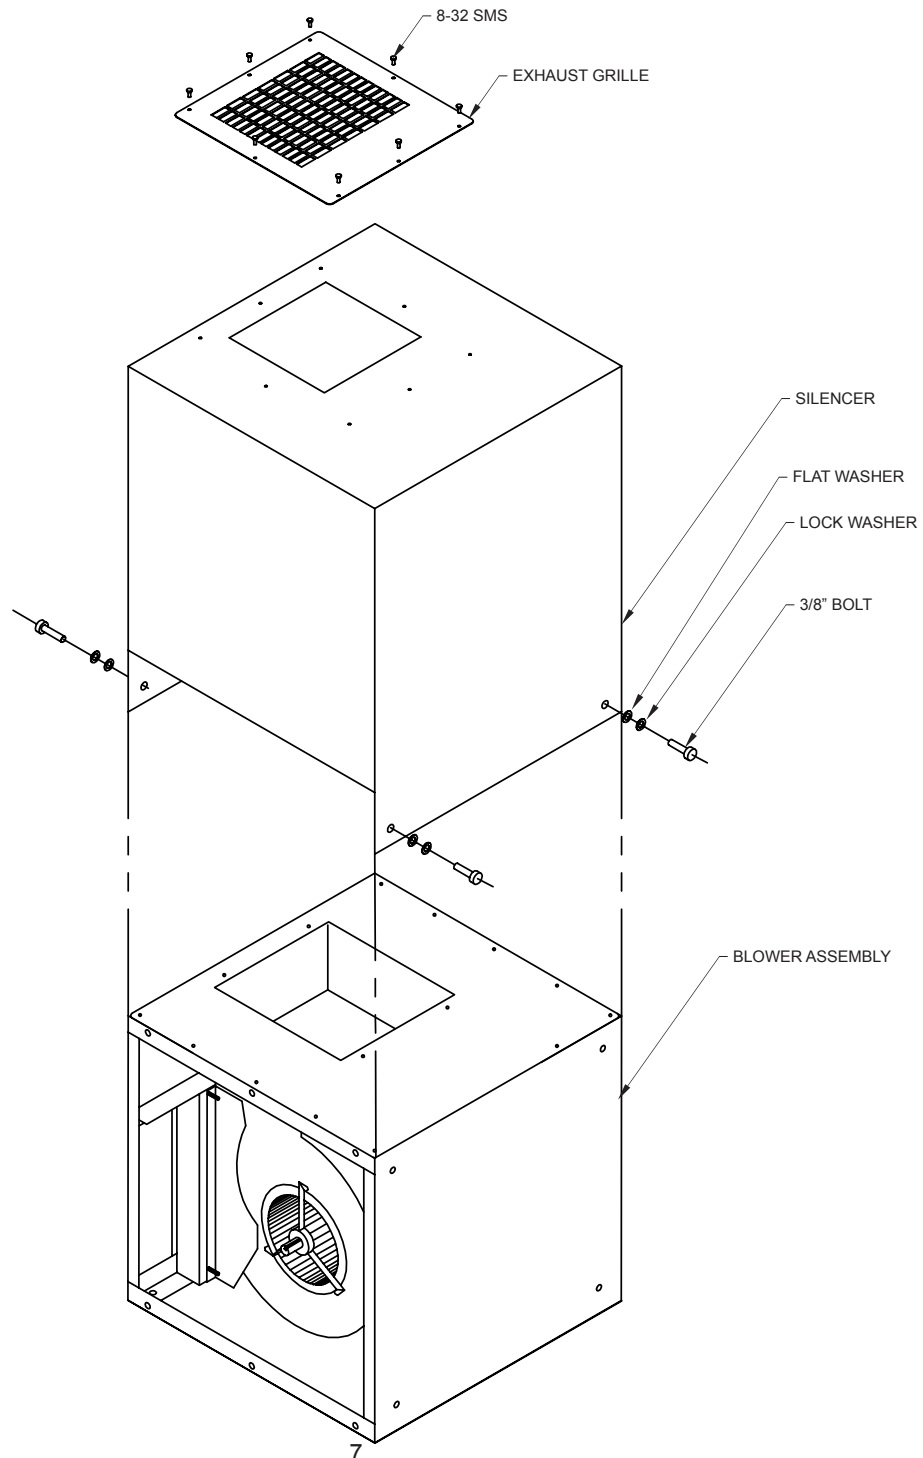

FIG. 7
1. Remove Exhaust Grille from unit as shown in FIG. 7.